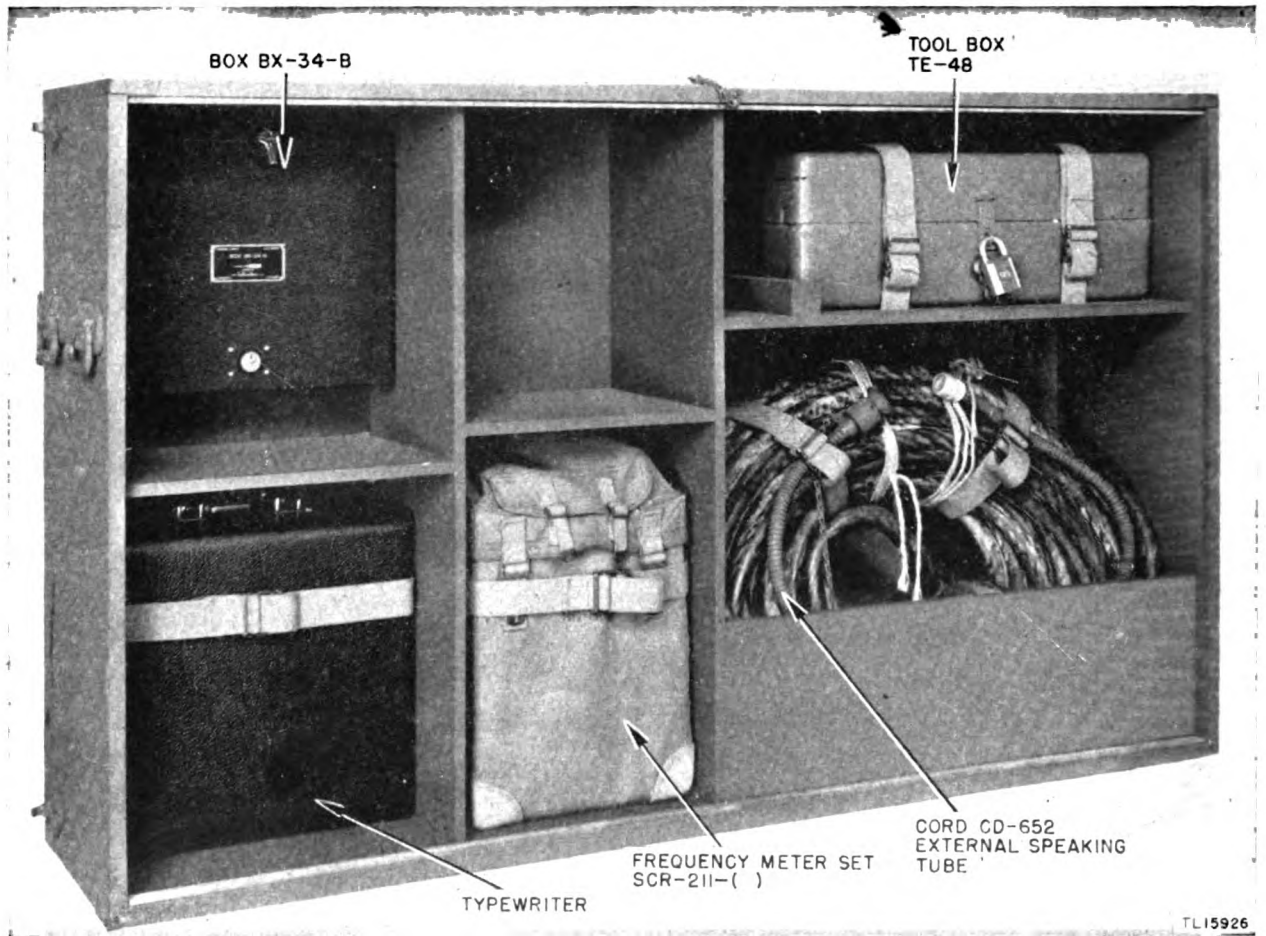

Figure 15. Chest CH-119-A—front panels removed.
18. Chest CH-119-A (fig. 15)
The frequency meter set is carried in Chest CH-119-A where it is firmly held in place by a strap. (See fig. 15.) It serves as a frequency standard for the radio set, so that the operating frequency of the transmitter and the receivers may be determined accurately in the field. TM 11-300 is supplied with the meter and describes its operation in detail.
Two sets of crystal holders (36 to the set) are provided in Box BX-34-B (fig. 15), so that the transmitter may be operated at any of the frequencies listed in table V.